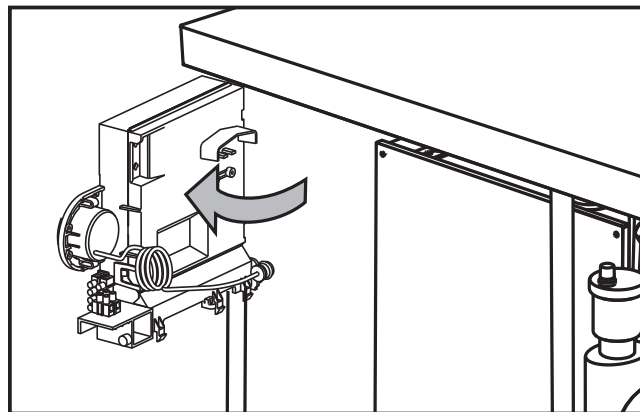

fig. 21
3. Undo the screw and rotate the control panel (see fig. 21).